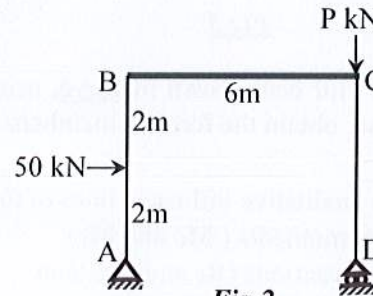

Fig.2
2. Apply the Virtual Work Method to calculate the horizontal deflection of the roller support at D for the frame shown in **Fig.2**, where P is 20 kN, if the Roll is even or P is 30 kN, if the Roll is odd. [E and I are constant, Consider $I_{AB}=I_{CD}=I$ and $I_{BC}=2I$] [12]